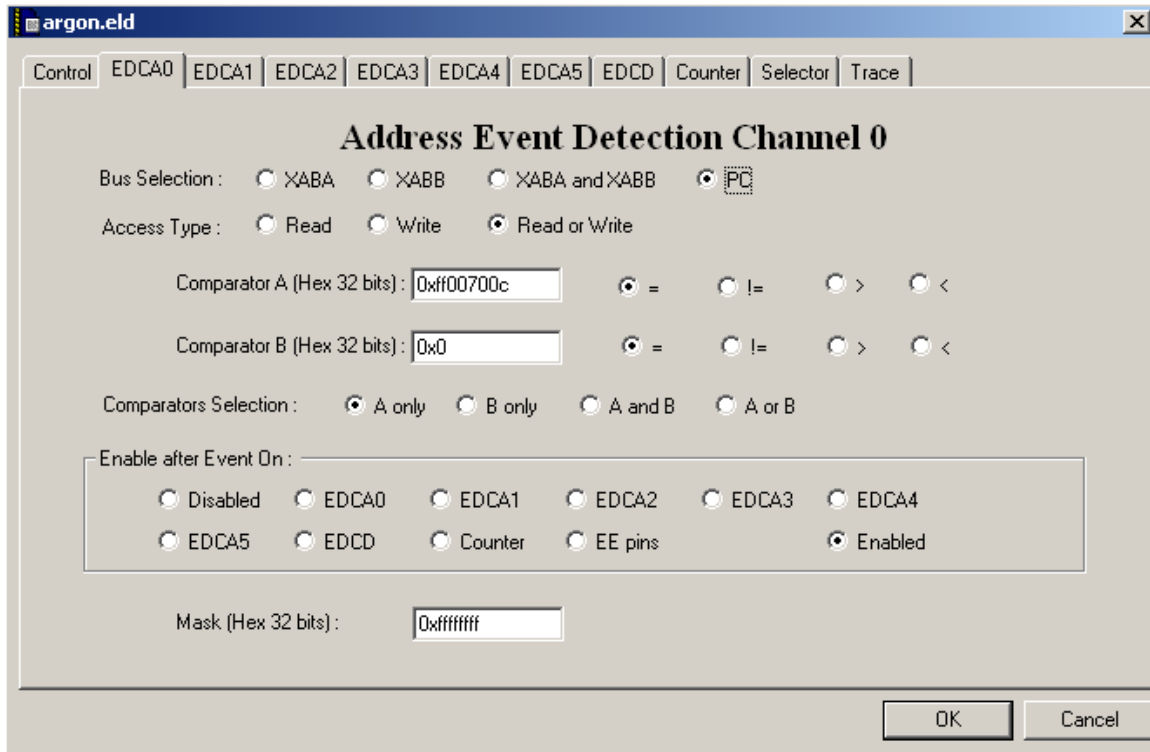

Figure 22: EDCA0 Setup
- ii. In the EOnCE configuration window select the EDCA0 tab (see Figure 22: EDCA0 Setup)